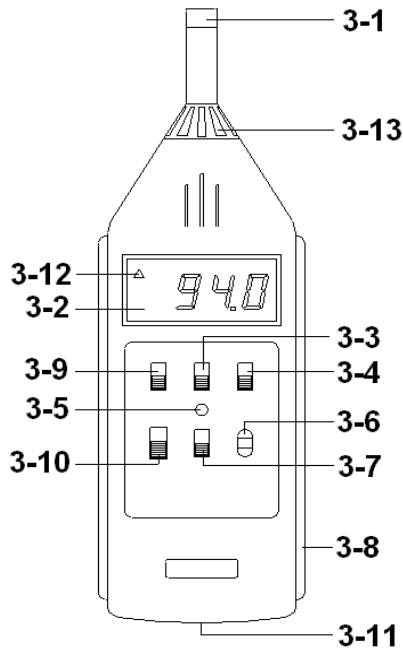

Fig. 1
- 1) Slide the " Power off/On selector " (3-10, Fig 1) to the " On " position.
- 2) For the instant display reading, slide the " Max. hold & Instant display selector " (3-4, Fig. 1) to the " Instant " position. General application always select the " Instant " function. For the " Max. hold " function, please refer the 4-7, page 6.
- 3) Slide the A/C weighting selector (3-7, Fig. 1) to "A" or "C" position for sound level measuring.
- 4) Determine proper measuring range by selecting the " Range selector " (3-9, Fig. 1) to minimize the tolerance of readout. When left corner of LCD show " ▲ " indicator, (3-12, Fig. 1), it shows the dB range selection is upper or lower setting. Slide range selector to other range for measuring.
- 5) According on various measuring sound source, select the " Time weighting selector " (3-3, Fig. 1) to " F " or " S " position.
During the sound level measurement, if intend to hold the maximum (peak) value on display, slide " Max. hold & Instant display selector " (3-4, Fig. 1) to the " Max. hold " position.
- a. *During the operation of " Max. hold function ", push " Reset button for Max. hold function " (3-6, Fig. 1) once a while will reset the max. peak value.*
- b. *If not use the " Max. hold " function, it should select the " Max. hold & Instant display selector " (3-4, Fig. 1) to the " Instant " position.*
- 1) The instrument is provided an 3.5 mm Dia. " Phone signal output terminal " (3-7, Fig. 1) for connecting with analyzer, level recorder, tape recorder, controller ...etc.
- 2) Slide the " Battery Cover " (3-11, Fig. 1) & take the battery away from the battery compartment..
The sound level meter is built in the internal calibration " Calibration VR " (3-5, Fig. 1) on the front panel. Please according the following procedures to calibrate the instrument accurately, if it is necessary.
- 1)Prepare the optional " SOUND CALIBRATOR ", such as " SC-941 " or " SC-942 ". Power on the Sound Calibrator & plug calibrator output into the " Electric condenser microphone " head (3-1, Fig. 1) of the Sound Level Meter.
- 2) Slide the " Range selector " (3-9, Fig. 1) to " 60 - 100 dB " position.
- 3) Slide " Time Weighting selector " (3-3, Fig. 1) to " F " position.
- 4) Slide the " A/C weighting selector " (3-7, Fig. 1) to " A weighting " position.
- 5) Carefully adjust the " Calibration VR " (3-5, Fig. 1) with " - " screw driver (include accessory), until the display read within " 94.0 ± 0.2 " dB.
8-2 Calibrated via internal 94 dB generator The sound level meter is built in the internal standard 94 dB/1 KHz square wave generator for the purpose to calibrate come certain amplifier circuit (not the complete meter system). Please according the following procedures to calibrate the instrument before making operation, if the instrument not in use for a long time. The calibration method are similar as above 8-1, but not connect the external sound calibrator (SC-941, SC-942...), the other should slide " Power off/On/Internal calibration selector " (3-10 , Fig. 1) to the " CAL. " position " Carefully adjust the " Calibration VR " (3-5, Fig. 1) with " - " screw driver (included accessory), until the display read within " 94.0 ± 0.2 " dB.